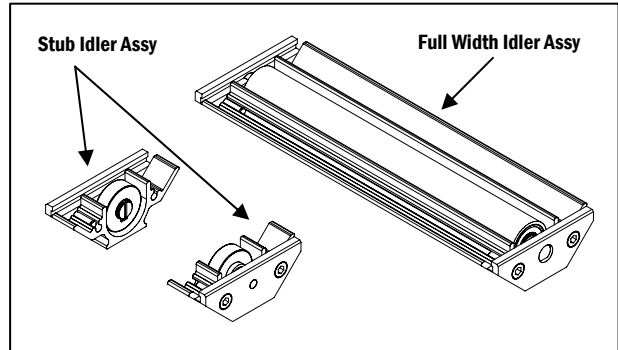

Figure 1
a. There are two different styles of underside idlers, dependent on the size of the conveyor and style of belt: stub idlers and full width idlers. Both styles mount to the conveyor in the same way (**Figure 1**).